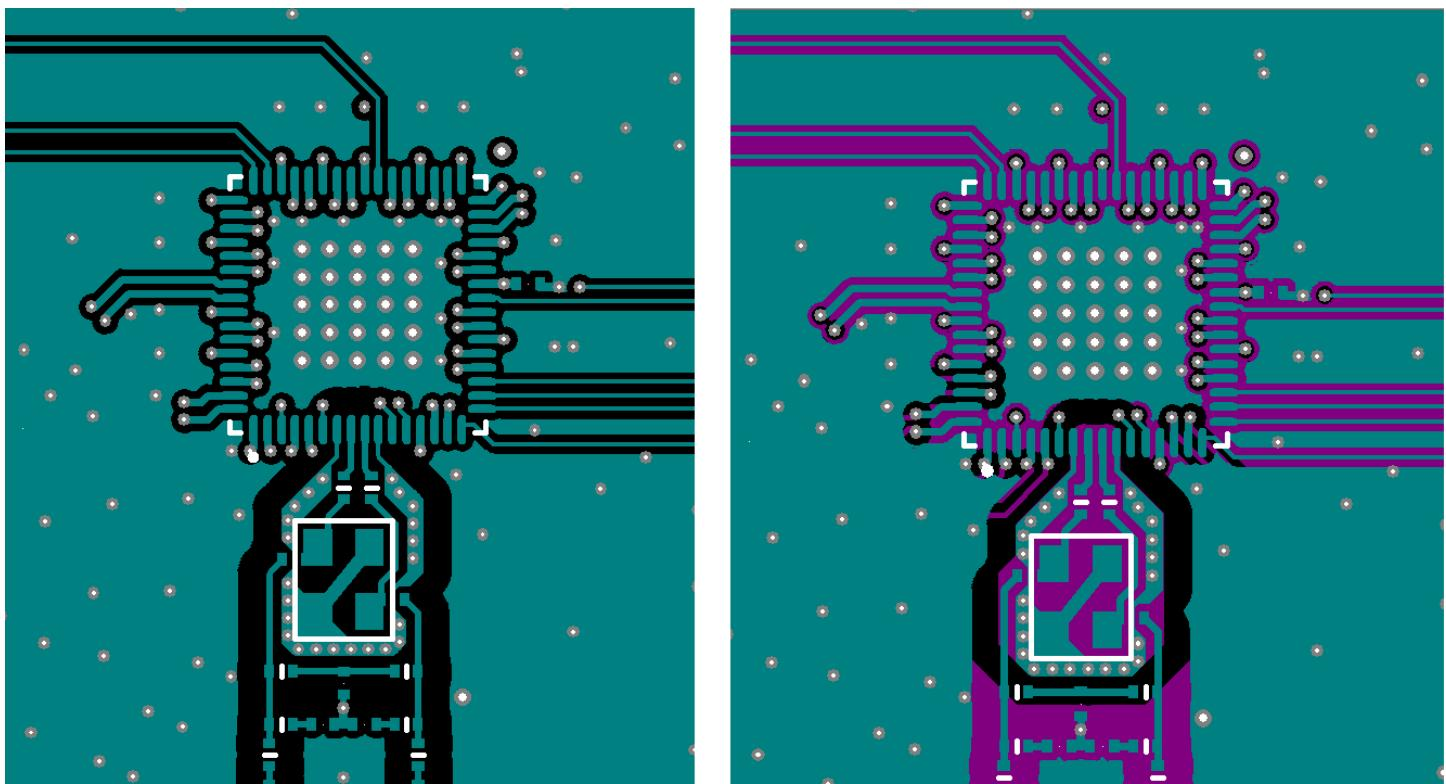
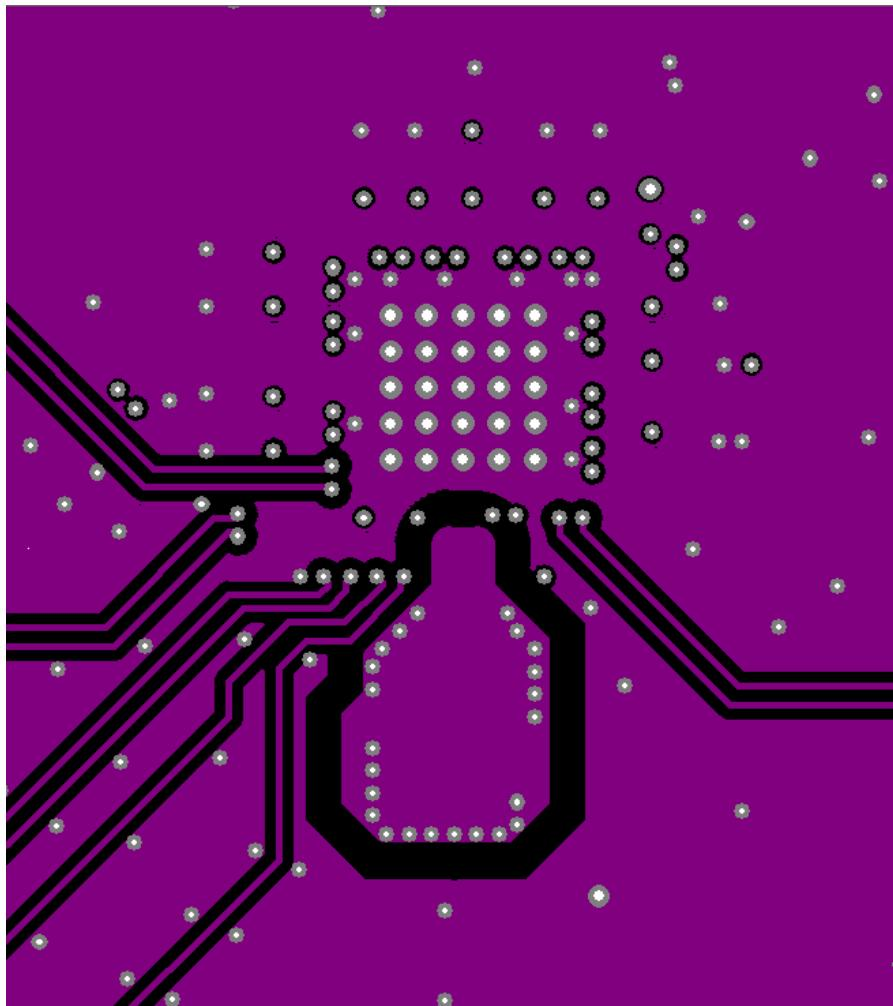

Figure 12.1. 64-pin Si5391/Si5391P Crystal Layout Recommendations Top Layer (Layer 1)
Figure 12.2. Zoom View Crystal Shield Layer, Below the Top Layer (Layer 2)
3. Connect the crystal's GND pins to the DUT's X1 and X2 pins via a local crystal GND shield placed around and under the crystal. See Figure 12.1 64-pin Si5391/Si5391P Crystal Layout Recommendations Top Layer \(Layer 1\) on page 52 at the bottom left for an illustration of how to create a crystal GND shield by placing vias connecting the top layer traces to the shield layer underneath. Note that a zoom view of the crystal shield layer on the next layer down is shown in Figure 12.2 Zoom View Crystal Shield Layer, Below the Top Layer \(Layer 2\) on page 53.
Figure 12.2 Zoom View Crystal Shield Layer, Below the Top Layer \(Layer 2\) on page 53 shows the layer that implements the shield underneath the crystal. The shield extends underneath the entire crystal and the X1 and X2 pins. This layer also has the clock input pins. The clock input pins go to layer 2 using vias to avoid crosstalk. As soon as the clock inputs are on layer 2, they have a ground shield above, below, and on the sides for protection.